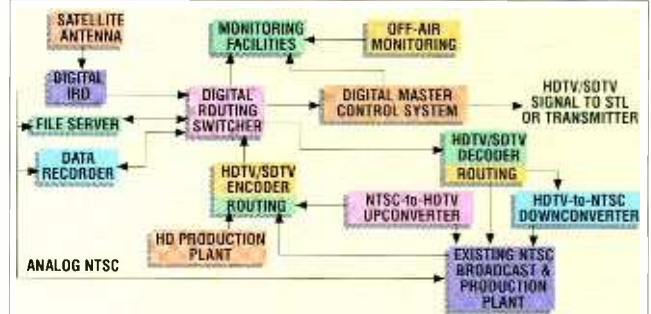

Figure 2. Block diagram of a transitional ATV model, which provides some local origination capabilities.
2. *Transitional DTV.* This plan takes the minimal DTV scenario and adds some local origination capabilities. As illustrated in Figure 2,¹ this plan establishes a foundation